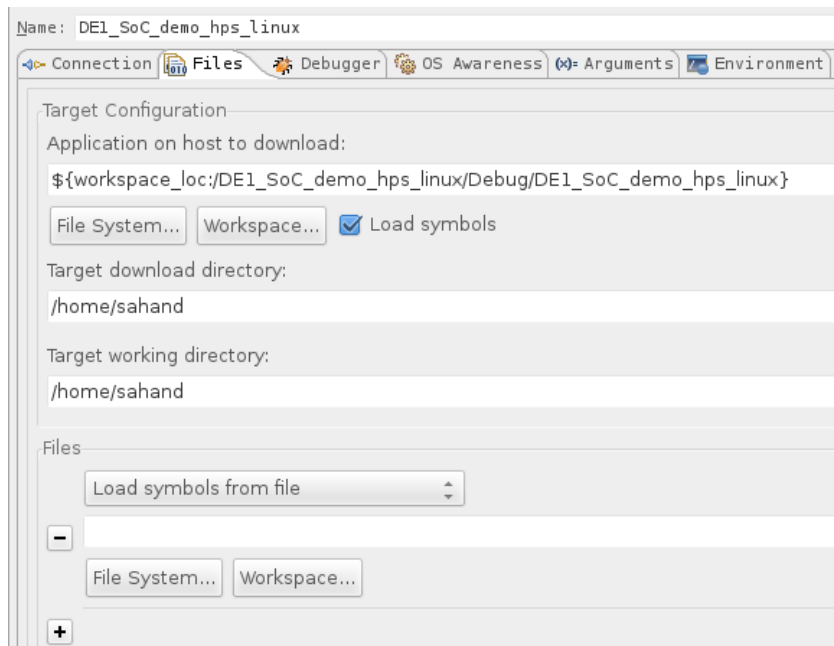

Figure 13-16. Debug Configuration “Files” Tab
- c. Set the “Target working directory” to your user directory. In my case it is “/home/sahand”. You should have something similar to Figure 13-16.